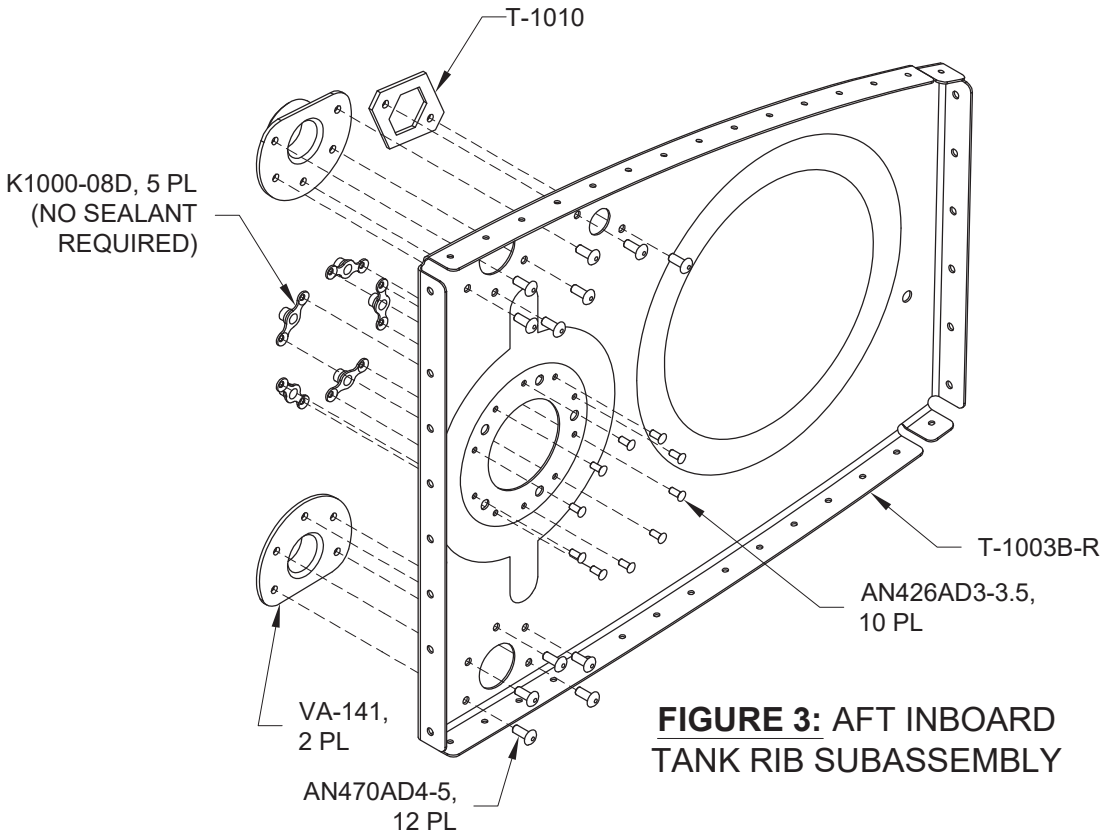

FIGURE 3: AFT INBOARD TANK RIB SUBASSEMBLY
Step 8: Attach the VA-141 Fuel Flanges, T-1010 Anti-Rotation Plate and nutplates to the T-1003B-R Tank Inboard Rib - Aft as shown in Figure 3.
Step 2: Rivet the T-00007B Fuel Cap Flange and T-00005B-L Vent Line Clip to the T-00001-L Fuel Tank Skin as shown in Figure 1. See Figure 2 for rivet call-outs. Make sure the thin part of the fuel cap flange is facing the aft and fwd direction See Page 18-03 Figure 3.
Step 3: Rivet the T-1003C-R Tank Inboard Rib - Fwd, T-1004-L Tank Interior Ribs, and T-1003-L Tank Outboard Rib to the T-00001-L Tank Skin as shown in Figure 3. See Figure 1 for rivet call-outs. Keep the T-00003-L & -R Tank J-Stiffener area clean of sealant for later installation of the J-stiffener.